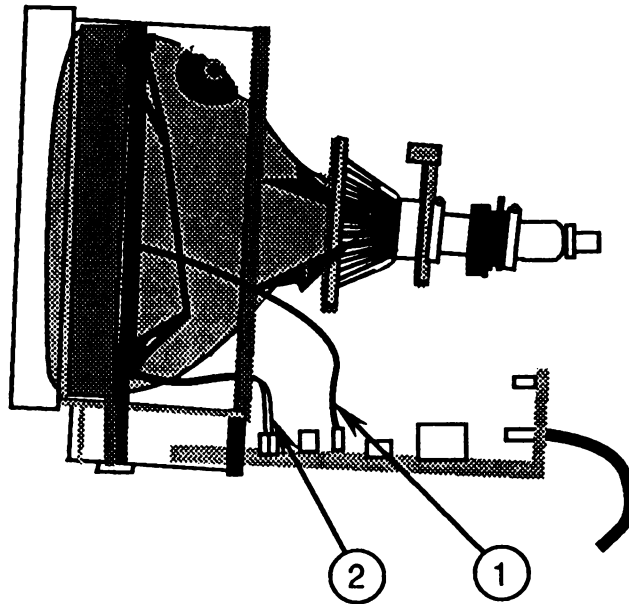

FIGURE 50
14. Reconnect the degaussing coil ground strap to connector **W** on the main logic PCB (Figure 50, #1), making sure the "W" on the side of the connector is on the same side as the "W" on the logic board.